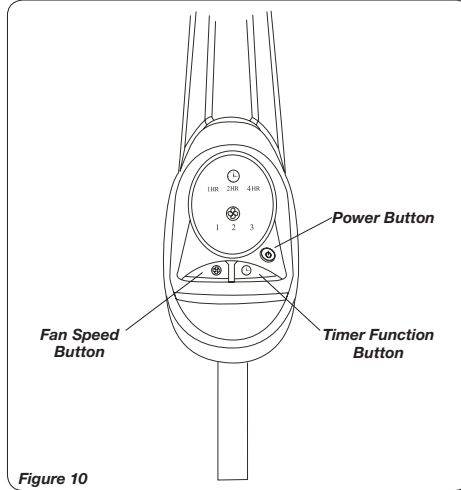
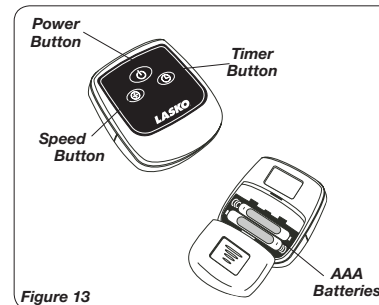

Figure 10
Figure 13
This Fan may be operated by the Manual Controls located on front of the unit (as shown in **Figure 10**) or by the Remote Control (shown in **Figure 13**).
1. Install batteries (not supplied) as shown in *Figure 13*. The battery is size “AAA”.